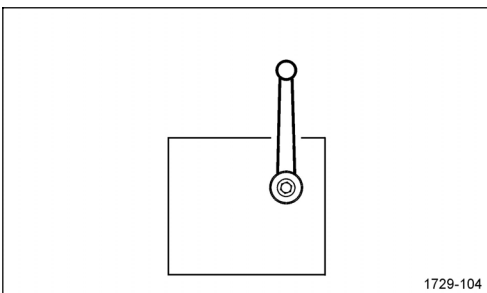
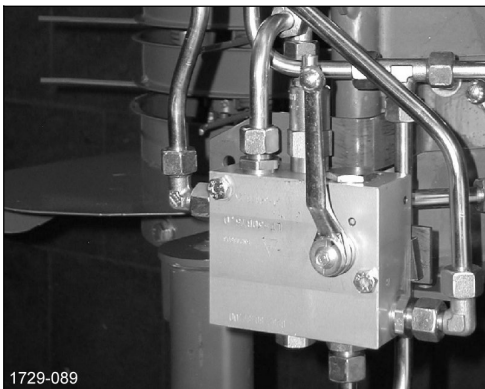
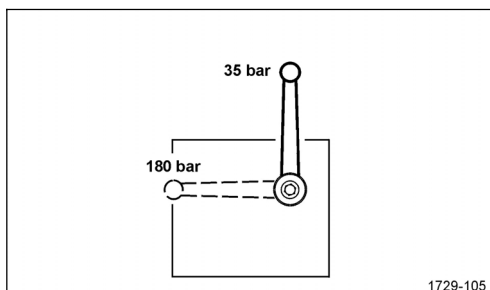

Figure 57
Figure 58
Figure 59
**Note!** For normal production the ball valve must point to the machine (see Figure 57 and Figure 58)!
- ❑ Swivel ball valve (Figure 58) beneath the left side cover to the front: 180 bar (Figure 59).
- ❑ Swivel ball valve (Figure 58) back to the machine: 35 bar (Figure 59).